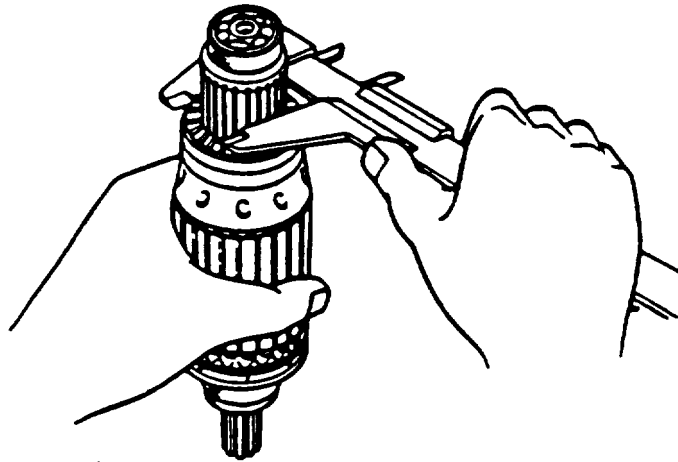

FIGURE 3-27. Measuring Commutator OD
- (2) Zero dial indicator on commutator.
- (3) Rotate armature and record run-out. Standard is 0.0008 inch (0.02 mm), with a limit of 0.00197 inch (0.5 mm).
- (4) If run-out exceeds limit, replace armature.
- b. Using a micrometer, measure OD of commutator, refer to FIGURE 3-27. If measurement is less than 1.38 inches (35 mm), replace armature.